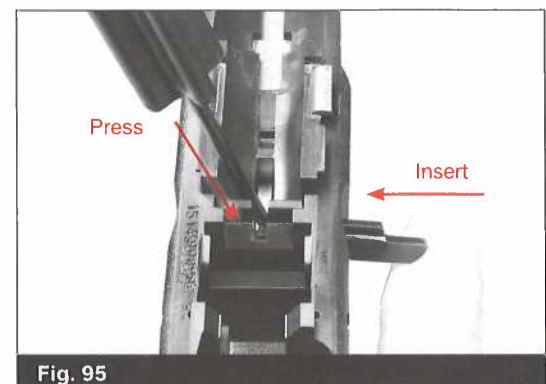

Fig. 95
- Depress slide lock spring and move slide lock on top. Do function check. (Fig. 95)